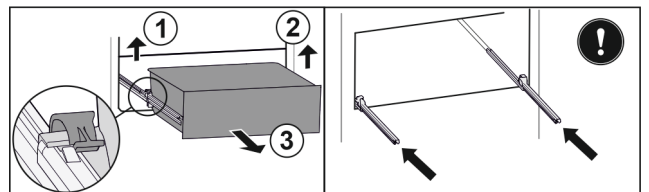

Fig. 170
- Lift left clamp and simultaneously pull drawer forwards on the left. Fig. 170 (1)
- Lift right clamp and simultaneously pull drawer forwards on the right. Fig. 170 (2)
- Remove drawer to the front. Fig. 170 (3)